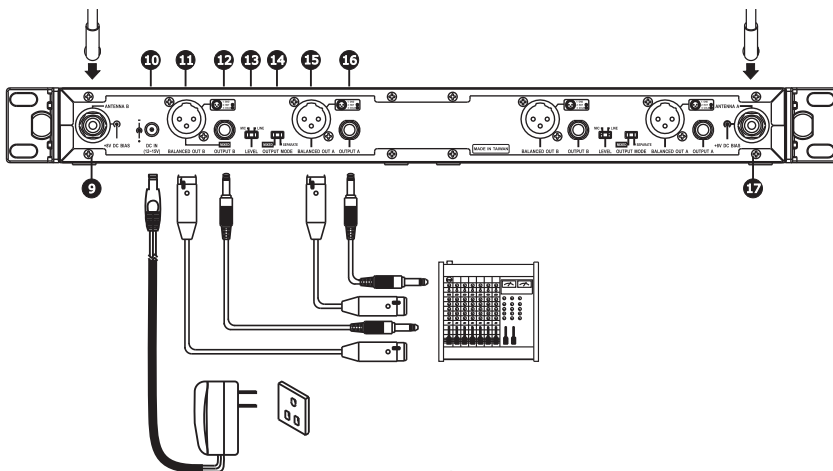

Fig. 2
- 1、 Connect an antenna to each of the antenna connectors ❹ ❽ on the rear panel. Fig. 2.
- 2、 Connect the power supply to the receiver DC input ❺ and plug into an AC power source. Fig. 2.